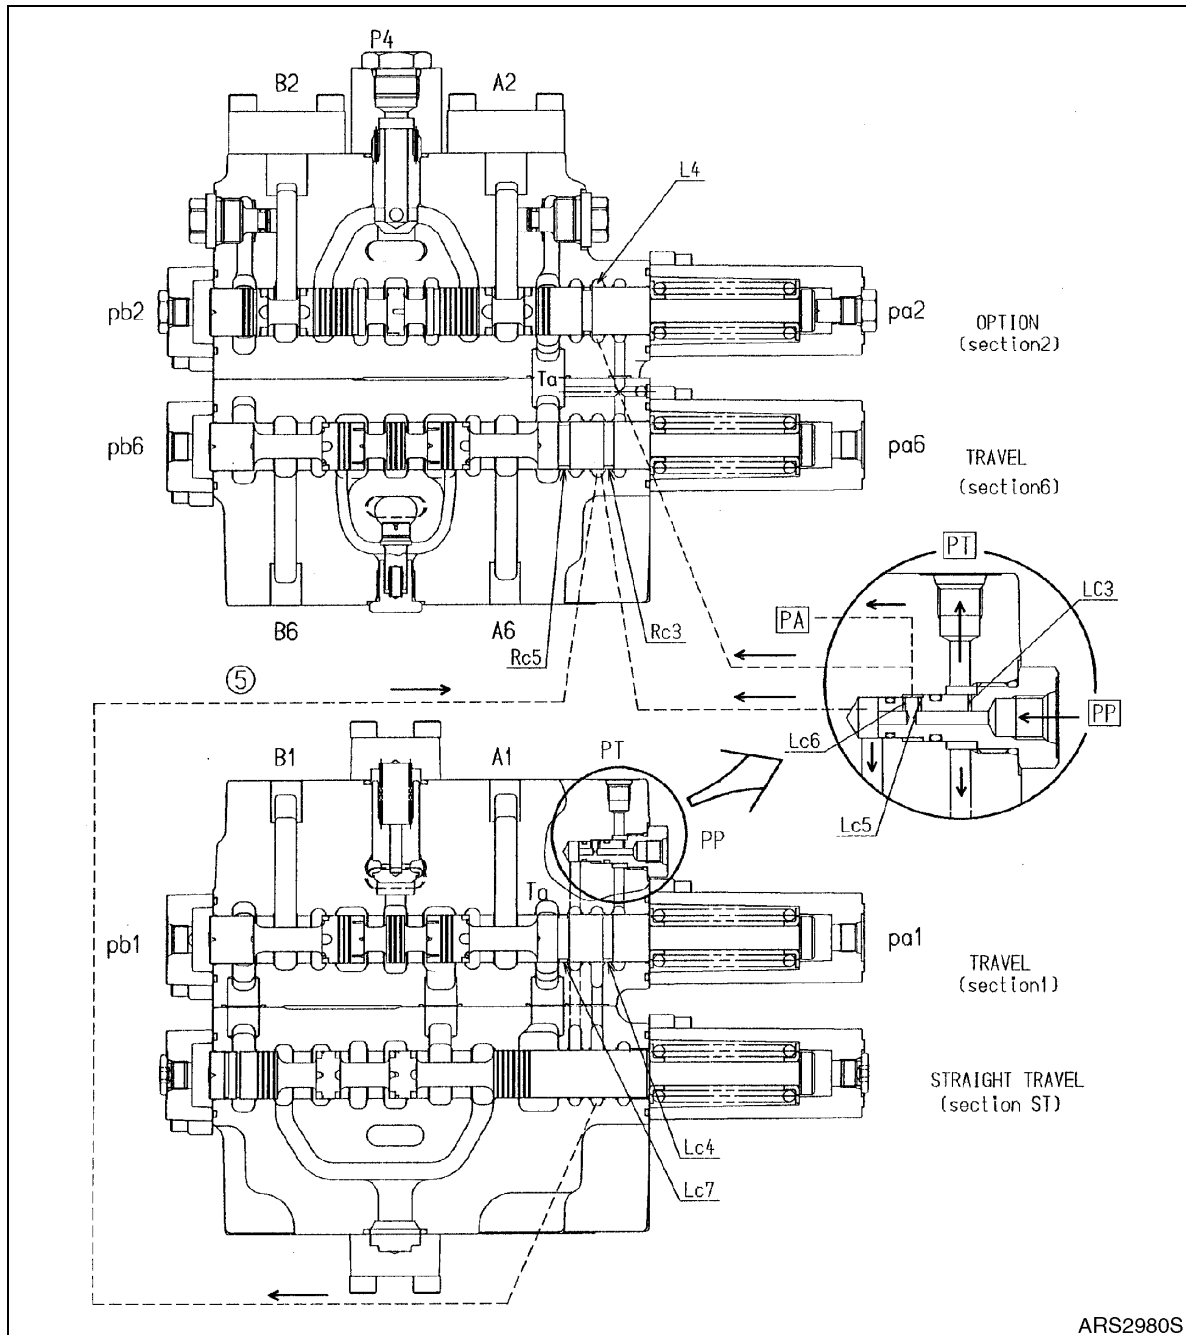
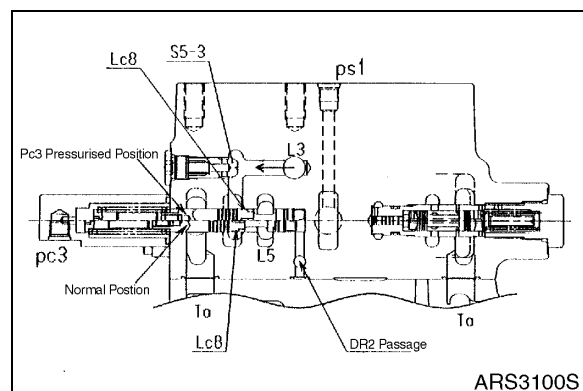

Figure 3
Figure 14
1. Oil supplied to port (PP, Figure 2 and Figure 3) flows through orifice (Lc3) to port (PT) and simultaneously flows through land (Lc4), passage (5), and land (Rc3) into tank passage (Ta).
2. The same oil supplied to port (PP), then flows through orifice (Lc5) into port (PA), and it also flows through passages (L4)(7) and (R4) to bucket spool land (Rc4) and then flows into drain passage (DR).
3. The oil passing through orifice (Lc6) flows through land (Lc7) to tank passage (Ta) or flows through passage (4) to travel spool land (Rc5) and then flows into tank passage (Ta).
The orifice, that is installed in parallel passage for arm 1, controls arm speed when operating in a combined operation. Oil supplied from parallel passage (L3, Figure 14) of arm 1 (section 5) pushes open poppet (S5-3). It then flows through orifice (Lc8) of variable orifice spool, and then is connected to passage (L5, Figure 3). From here, flow of orifice (Lc8) can be varied by increasing or decreasing pressure against pilot poppet (Pc3).